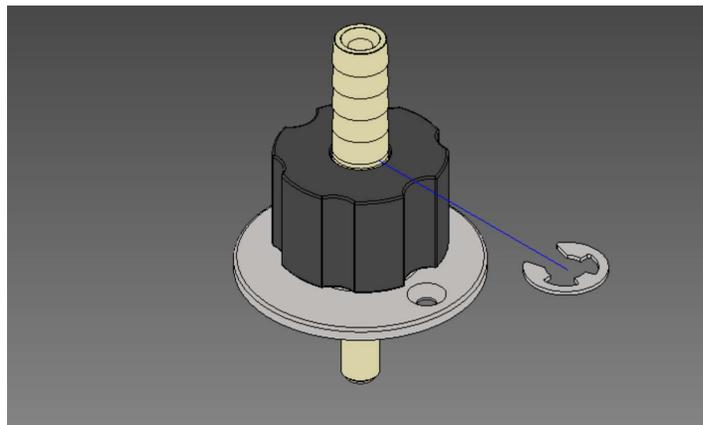

FIGURE F. 16. – EXTERNAL E-CLIP INSTALLATION
6. Install the external E-Clip (see Figure F.16.)